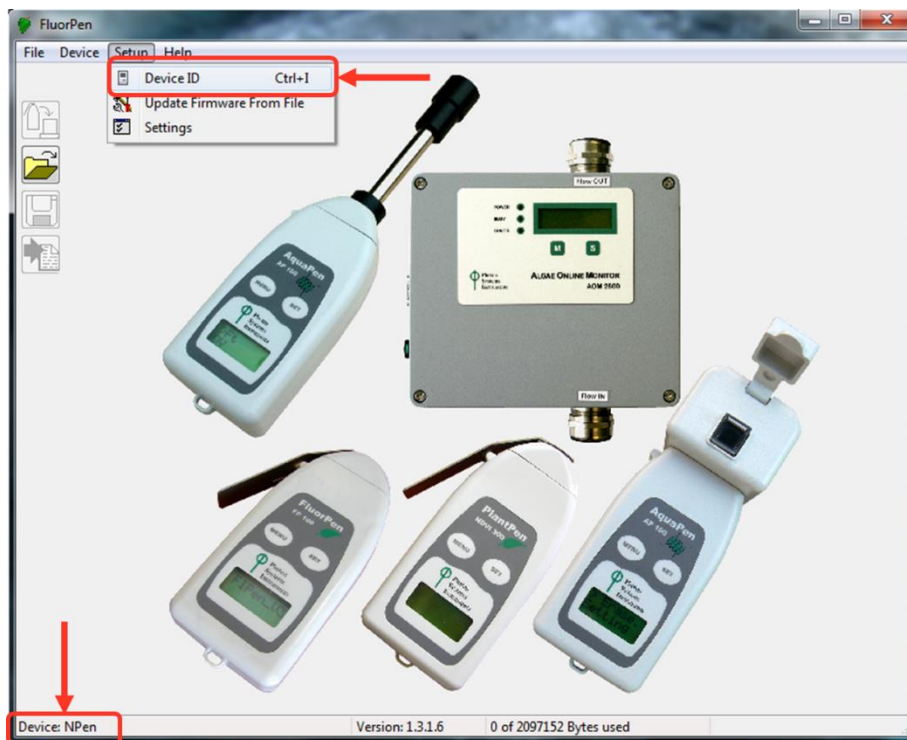

Fig. 14 Connecting N-Pen with Software.
5. Select: **Setup > Device ID (Ctrl+I)**. If properly connected, the message "Device: NPen" appears in the bottom part of the screen (Fig. 14).